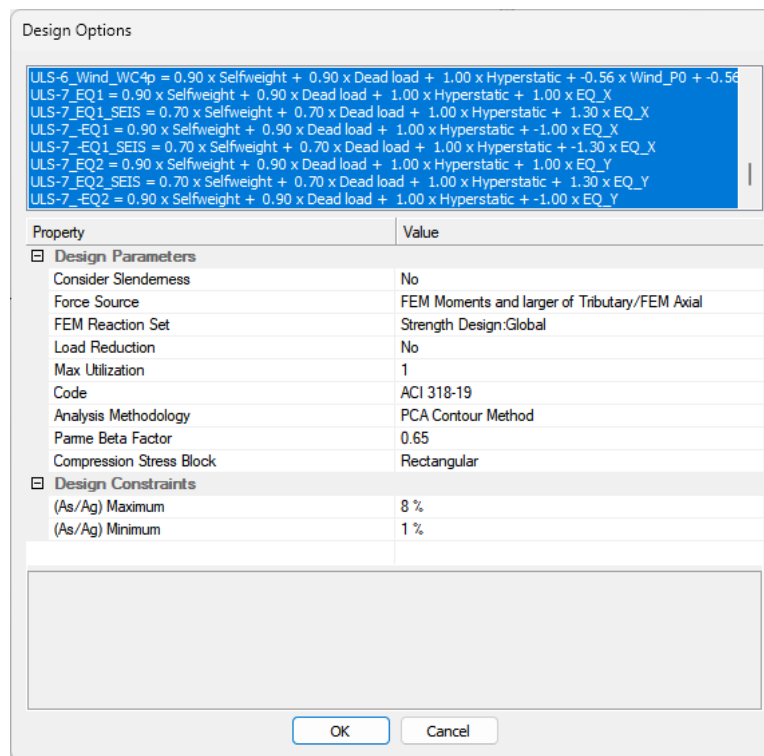

FIGURE 15-12
- For the remaining parameters, use the following and as shown in **FIGURE 15-12**.